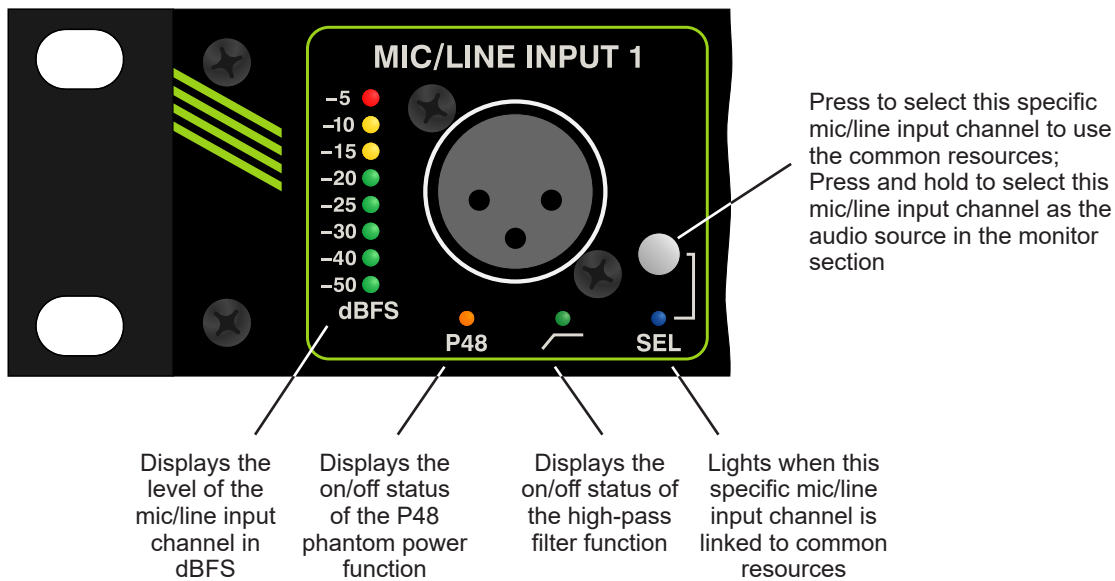

Figure 9. Detail of front panel showing one mic/line input channel (typical of four)
The Model 5414's four mic/line inputs are intended for connection to virtually any microphone or line-level source. The input circuitry is electronically balanced (differential), capacitor coupled, and protected from damage should a moderate DC voltage be accidentally connected. For example, no damage will occur if a powered analog party-line (PL) intercom circuit be accidentally connected. (A PL circuit would typically have approximately 30 volts DC present.) The 3-pin female XLR connectors used for the mic/line inputs were specifically located on the front panel so that they can be readily accessed. Refer to Figure 9 for details. This makes changing sources and associated cabling fast and simple. Allowing "on the fly" set up and use was a main goal. The XLR connectors are "latch-less" and rely on friction instead of a mechanical lock to provide a positive retention force.